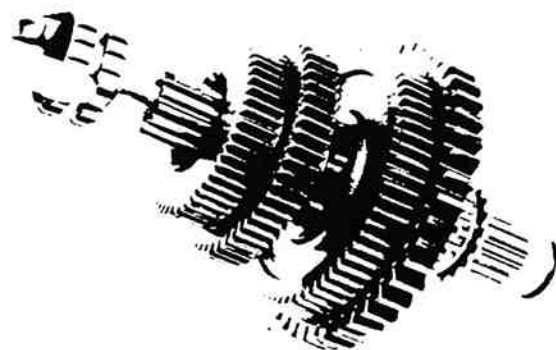

Figure 13-50. Removing 4th-5th Speed Clutch.
4. Remove the 4th-5th speed sliding clutch from front of shaft (figure 13-50).